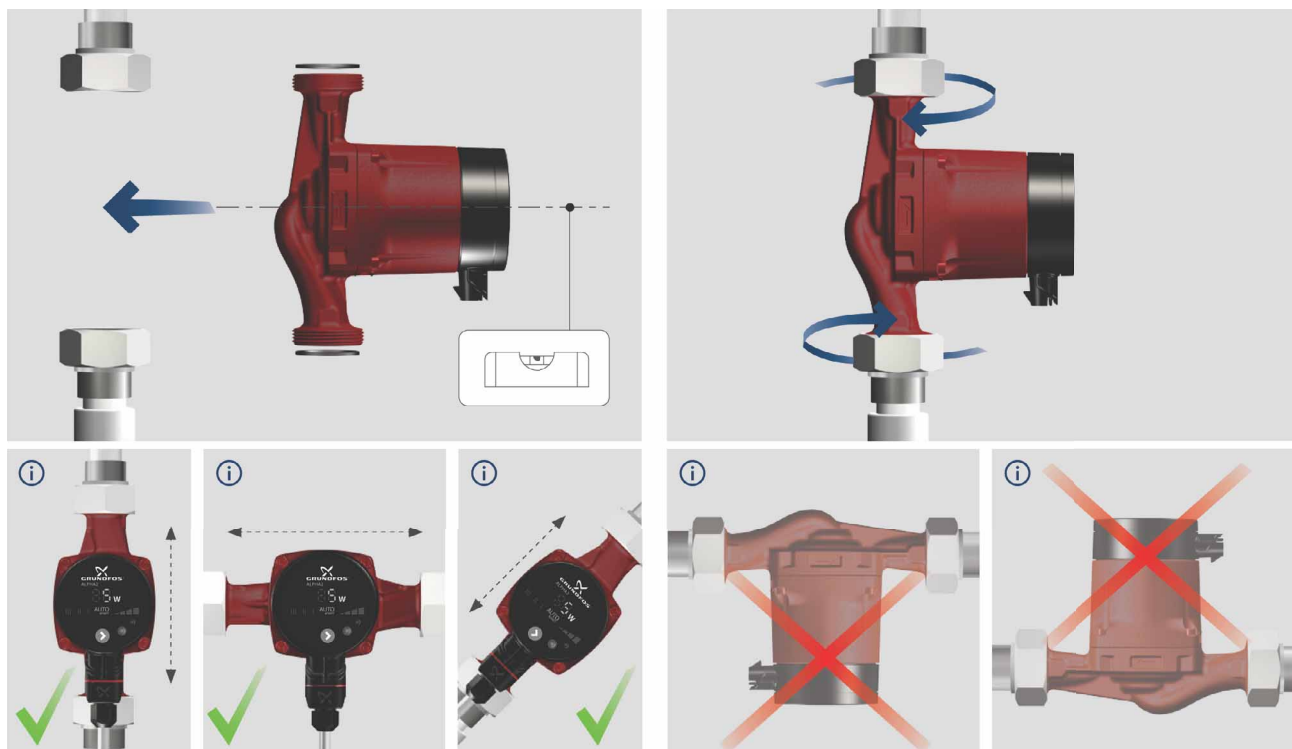

Fig. 4 Mounting the GRUNDFOS ALPHA2
- Install the pump with horizontal motor shaft. See fig. 4.